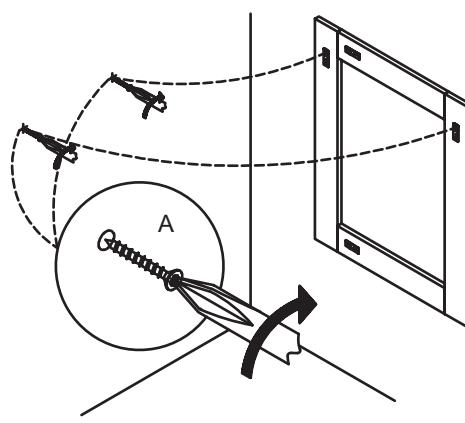

Figure 2
2: If using wall anchors: 1) Using a drill, create a hole in the wall for each wall anchor over the marked locations. 2) Insert (x 2) wall anchors (B). 3) Insert (x 1) 2" screw into each wall anchor. Figure 2.
If installing directly into wall studs: Using a drill, insert (x 1) 2" screw into each marked location. Figure 2.
3: Hang the mirror on the screws using the mounting hardware preassembled to the mirror. Figure 2.